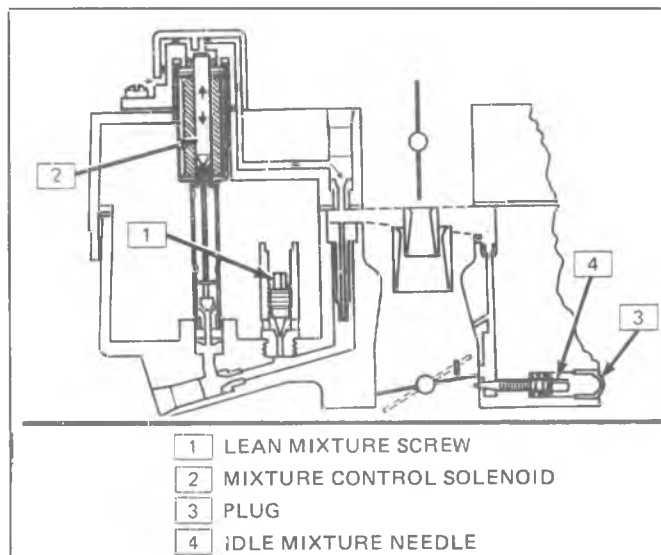

Figure 107 Idle Mixture Needle
9. Remove idle mixture needle plug. (Figure 107)